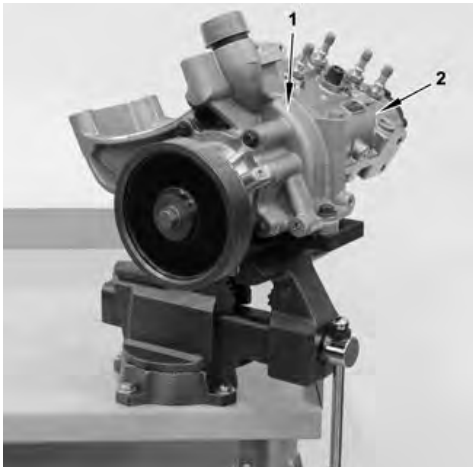

Figure 14. Holding Plate and Drive Housing
27. Secure Holding Plate in a vise (Figure 14).